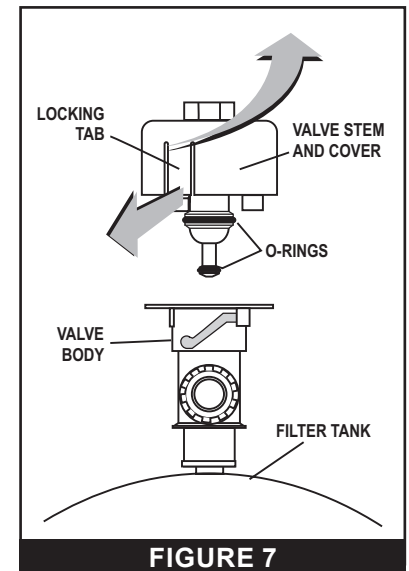

FIGURE 7
- c. Stand clear of the filter and wait until all pressure is relieved. **Pressure gauge must read zero (0) psi.**
2. With the air relief valve installed, pull out the locking tabs and unlock the valve stem and cover assembly from the valve body counterclockwise (see **FIGURE 7**).